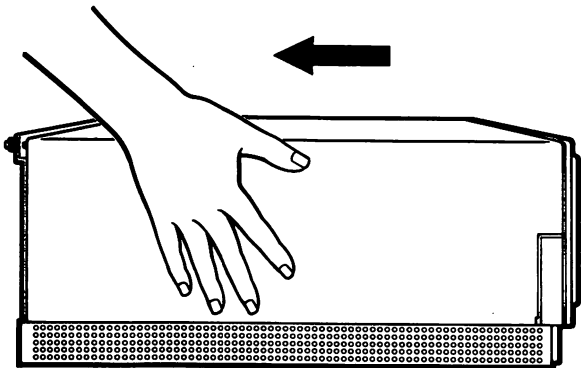

Figure 2-6. Slide the cover into place.
- With hands pressing firmly against the sides of the cover, give one quick pull toward the rear of the processor. Make sure the sides stay inside the processor frame. See Fig. 2-6.